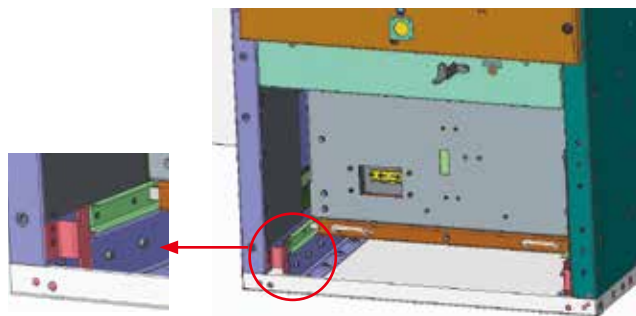

Figure 6.17: Lock the truck in the panel
- Release the two sliding cranks and make sure the lock plate inserting in the holes at both sides of guide rail. (See figure 6.17).